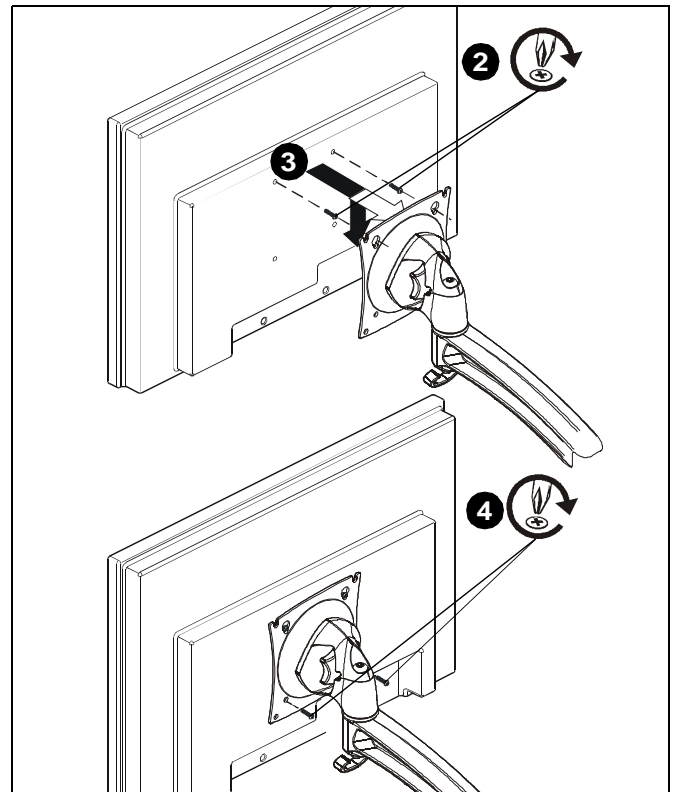

Figure 3
1. Ensure faceplate is able to swivel and tilt easily, yet still be tight enough to hold display in desired position. Adjust as required before proceeding. See "ADJUSTMENT" for detail. (See Figure 3)
2. Using Phillips screwdriver, carefully install two M4x12mm screws (B) into the *upper* mounting holes on the display. Thread screws completely into display, then back out 3 complete turns. (See Figure 3)
3. Pick up and align display so that screws (B) (installed on the back of the display in the previous step) fit into the mounting holes on the faceplate. Rotate the bracket as required. Lower the display firmly into place. (See Figure 3)
4. Using Phillips screwdriver, install two remaining M4x14mm Phillips screws (B) through the *lower* mounting holes in faceplate into the display. (See Figure 3)
5. Tighten all four screws (B). Do not overtighten!